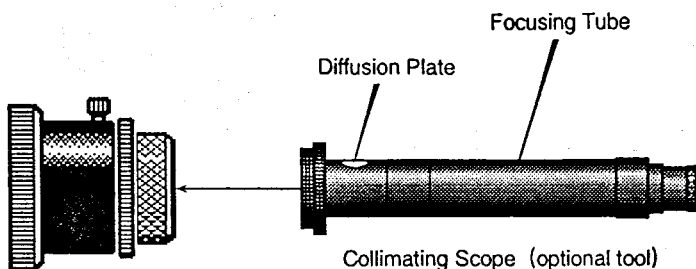

Fig.14
- 2) Take out the 31.7mm ocular adapter from the visual back and attach the collimating scope. See the fig.14.